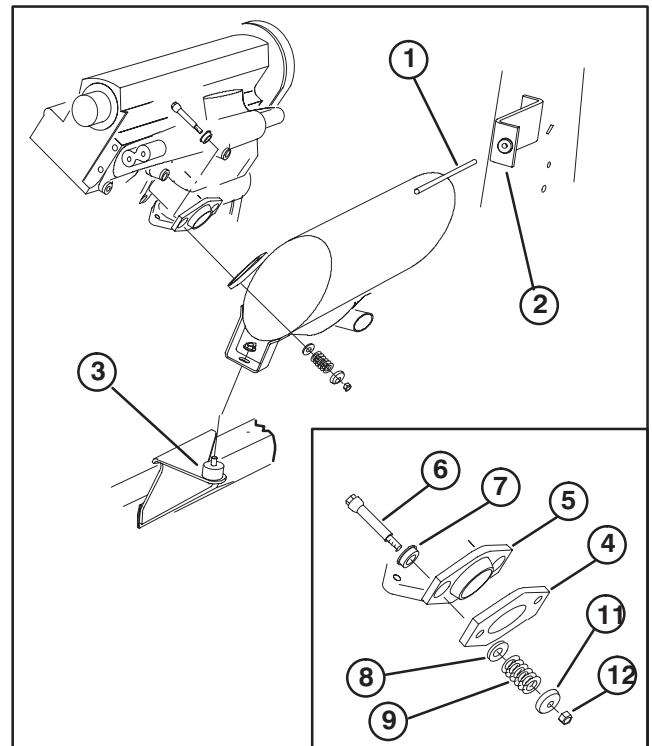

Figure 12
16. Insert a flange bushing into each hole of engine exhaust manifold. Secure muffler to engine exhaust manifold with (2) round head bolts, washers, springs, spring cups and nuts as shown in figure 12 and inset. Make sure springs are compressed to .820 in.